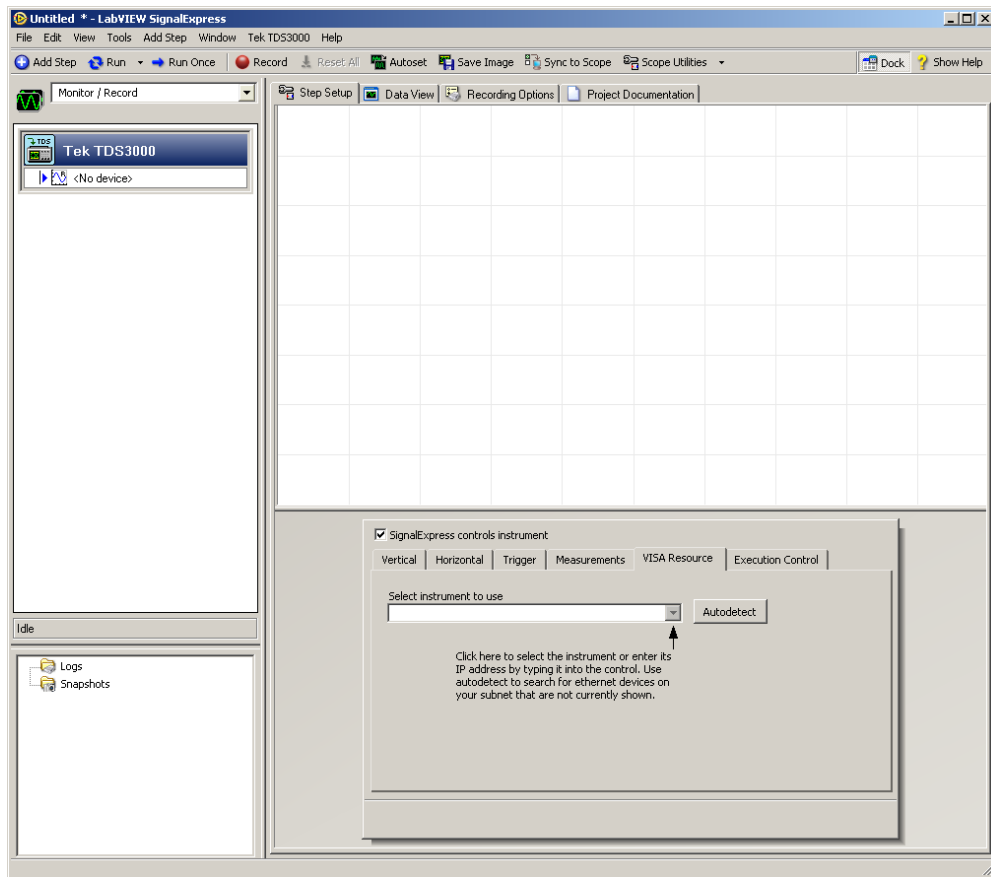

Figure 3-7. Step Setup tab for Tektronix TDS3000 Series Oscilloscopes
- If you are using a TDS3000 series oscilloscope, select **Tektronix»Acquire Signals»Tek TDS3000**. The **Step Setup** tab for the Tek TDS3000 step appears, as shown in Figure 3-7.